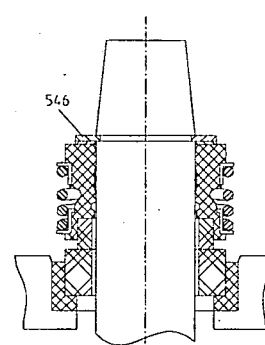

Fig. 27
Wet the rotating part of the mechanical seal with soap water. Push the whole assembly by hand over the shaft as far as possible. On size 20 mm (Fig. 26) final assembly by installing of impeller. On other sizes (Fig. 27) secure with snap ring (546).